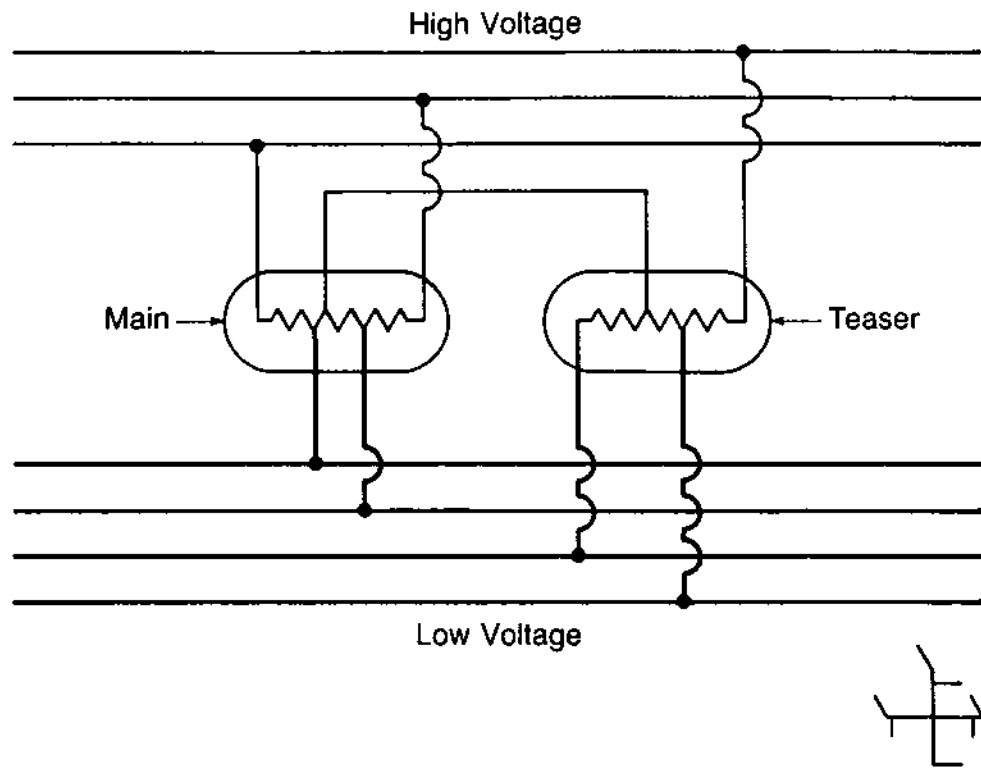

Fig. 40 – Three-Phase to Two-Phase, Interconnected by Autotransformers
e. Autotransformers for Phase Transformation. Three-phase to two-phase, four-wire, interconnected. Refer to Figure 40. When a phase transformation is desired without major stepping up or down of voltage, the autotransformer is the least expensive and the simplest equipment to use. The connection shown has the windings on the two-phase side electrically connected together at their middle point.